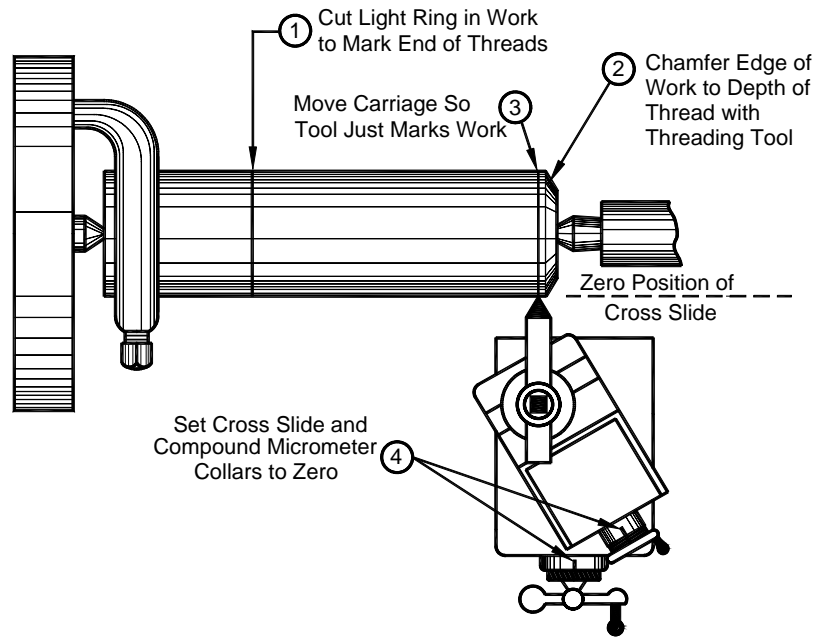

Figure 7-138. Preparation for threading.
9. Measure and mark the work where the threads will end by cutting a light ring with the threading tool bit. Crank the tool bit away from the work so the carriage can be moved. The spindle will still be turning. See Figure 7-138.
10. Manually position the carriage toward the right end of the workpiece and, using the compound rest, move the tool bit towards the work so it just lightly marks it. *Set both the cross slide and compound micrometer collars to zero.* See Figure 7-138.